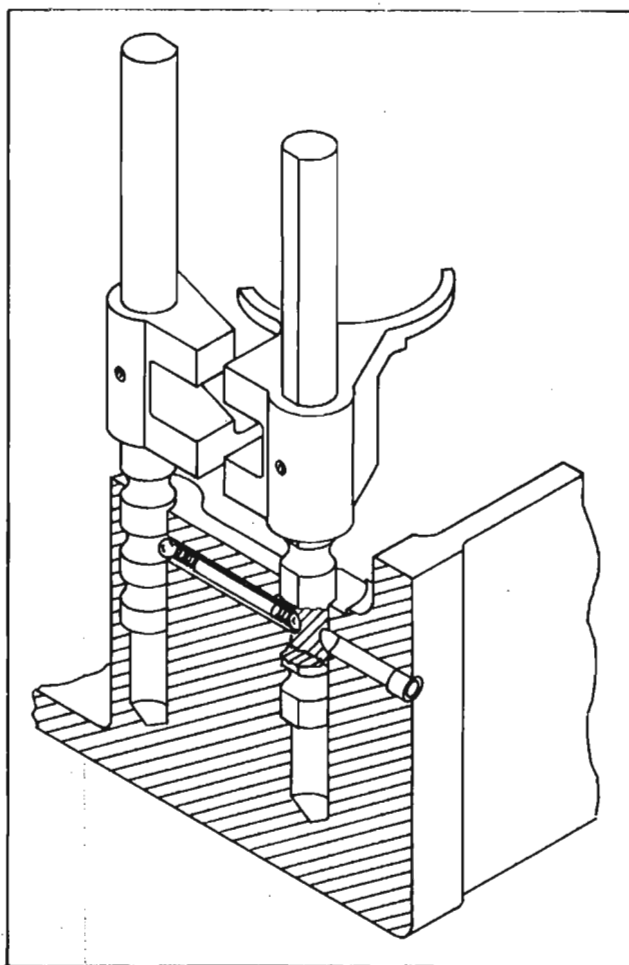

FIGURE 14
3. Install one stop ball, spring and stop pin. Refer to detent drawing and Figure 14.
4. Install the 2nd stop ball and using a punch push the ball in against the spring. Move the 2nd & high shift rail into the neutral position and continue to push on the punch until the ball is flush with the shift rail bore. At the same time insert the low and reverse shift rail and fork assembly, removing the punch, as the shift rail passes the ball. See Detent Drawing. Figure 14 and 15.